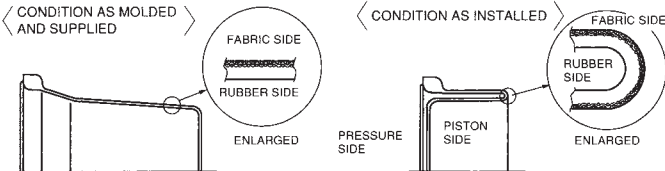

Fig.4
- a) When replacing BF Diaphragm, be sure BF Diaphragm is installed so that the fabric side comes in contact with the side walls of Cylinder and Piston and the rubber side faces inside the annular convolution (pressure side).(Fig.4)